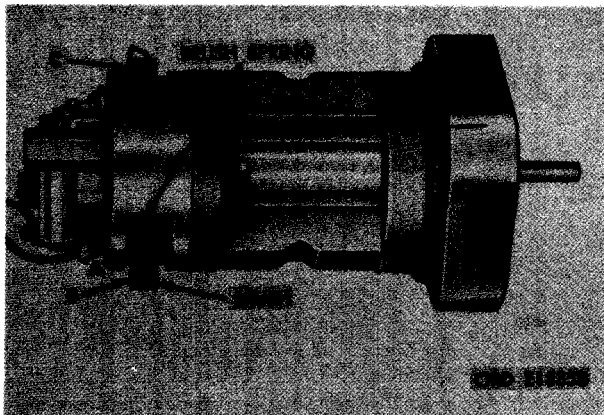
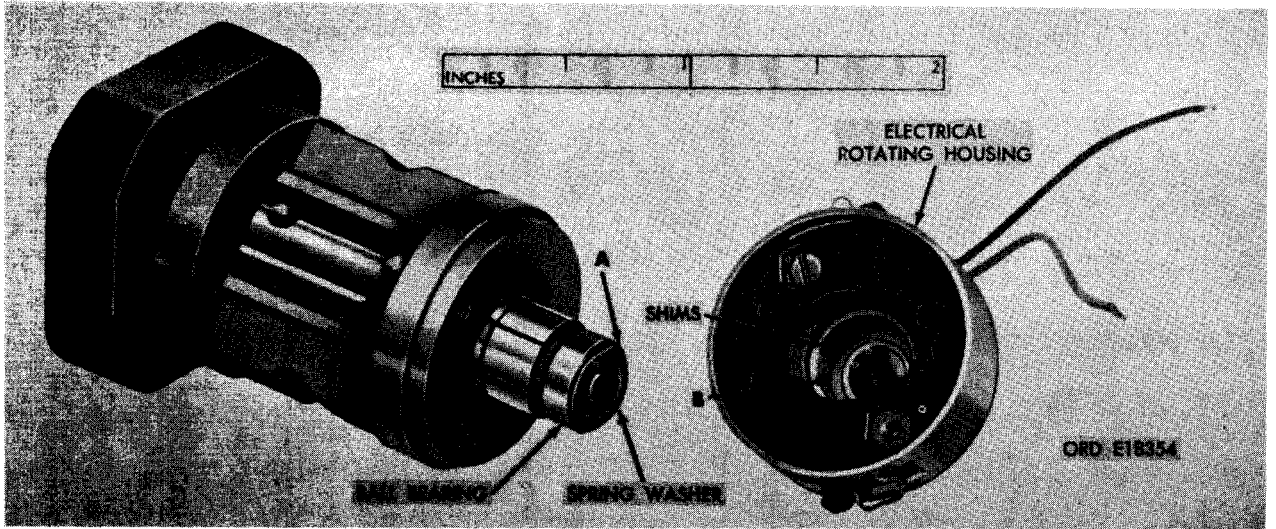

FIGURE 425. POSITIONING BRUSHES IN BRUSH HOLDERS.
FIGURE 427. REMOVING SPRING WASHER AND SHIMS.
(1) Figure 425. (A) Pull back on the brush spring. (B) Roll the brush out just far enough to clear the commutator. Hold brushes in raised position with spring resting against brush. Holding brushes with spring will prevent brushes from striking ball bearing on end of commutator during electrical housing removal (fig. 427). (C) Perform the same steps to remove the remaining brush.
(3) Figure 427. (A) Remove magnetized spring washer from ball bearing. (B) Remove shims from electrical rotating housing. Count number of shims used and save for assembly.